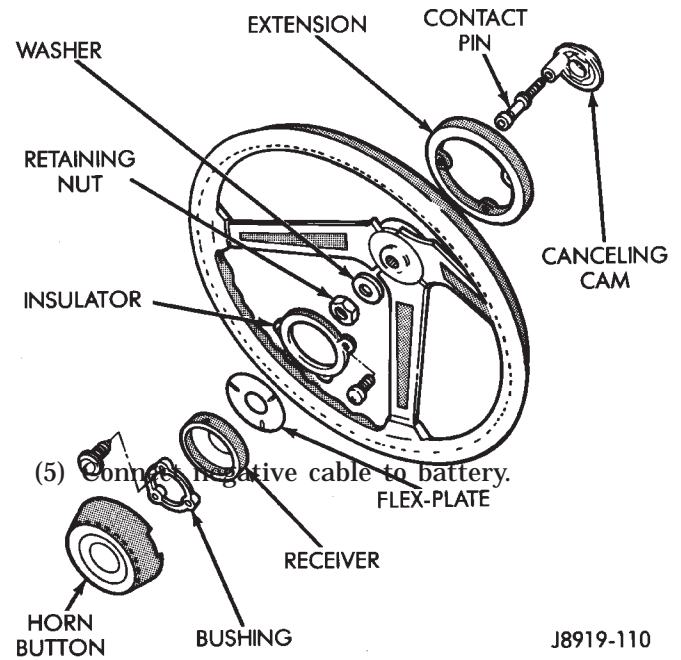

Fig. 4 Steering Wheel Removal/Installation
- (1) Disconnect negative cable from battery.
- (2) Remove horn button by pulling straight up.
- (3) Remove horn button components (Fig. 4).
- (4) To install the switch, reverse the removal procedures.